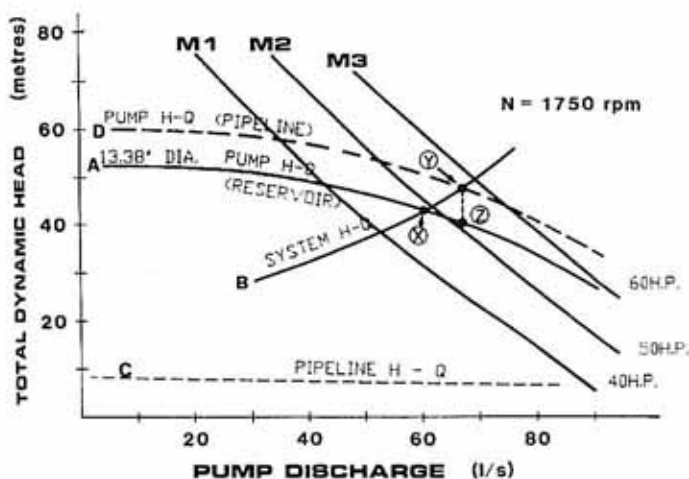

Figure 1: Pump head (H) vs flow (Q) curves
Figure 1, says Chinn, may help explain why this "free energy or pressure" causes motor overload. The curves presented are typical and unique to both a pumping unit and the system the pump delivers water to. Curve "A" is the Performance Curve for the pump in question. Curve "B" is the System Curve for the sprinkler system it is supplying. Both curves reflect their hydraulic relationships to flow rate (Q) and pressure (H). Where the two curves cross (pt. "X"), that is where the whole system will operate (eg. 60 l/s at 43 metres of head). Curves "M1", "M2" and "M3" are another part of the pump performance rating graphs which combine the specific pump efficiencies to yield the size of the required power unit (motor). In the case of pt. "X", the pump will have to be connected to a minimum of a 50 hp motor as the real power demand is approximately 48 hp.
In addition, Figure 1 includes the System Curve "C" for the lateral supply pipeline to be installed. It indicates a "maximum" operating pressure available to the pump of approximately 8 metres of head. Because of this